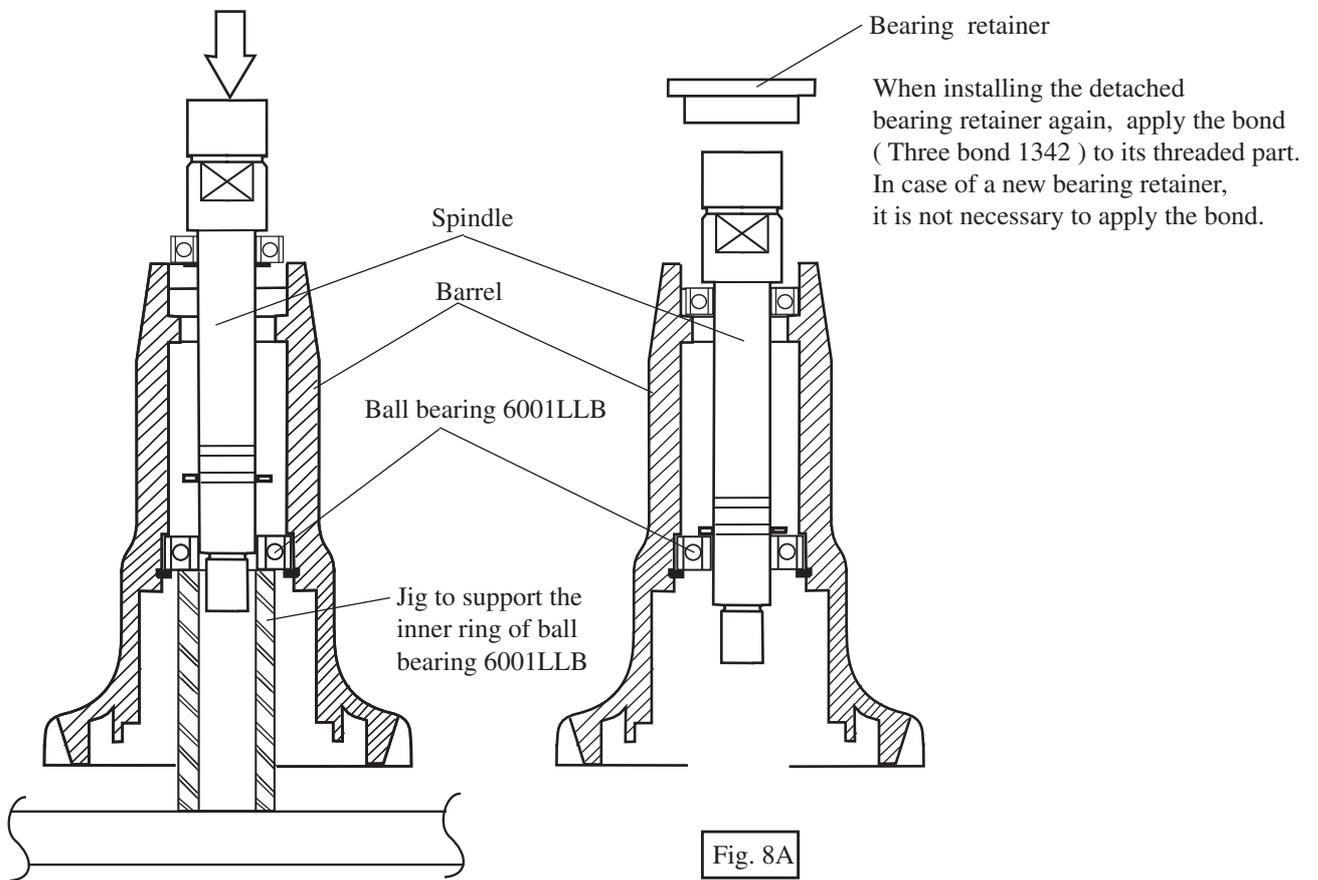

Fig. 8
(3) Supporting the inner ring of ball bearing 6001LLB with a cylindric jig, install spindle by pressing through ball bearing 6001LLB as illustrated in Fig. 8.